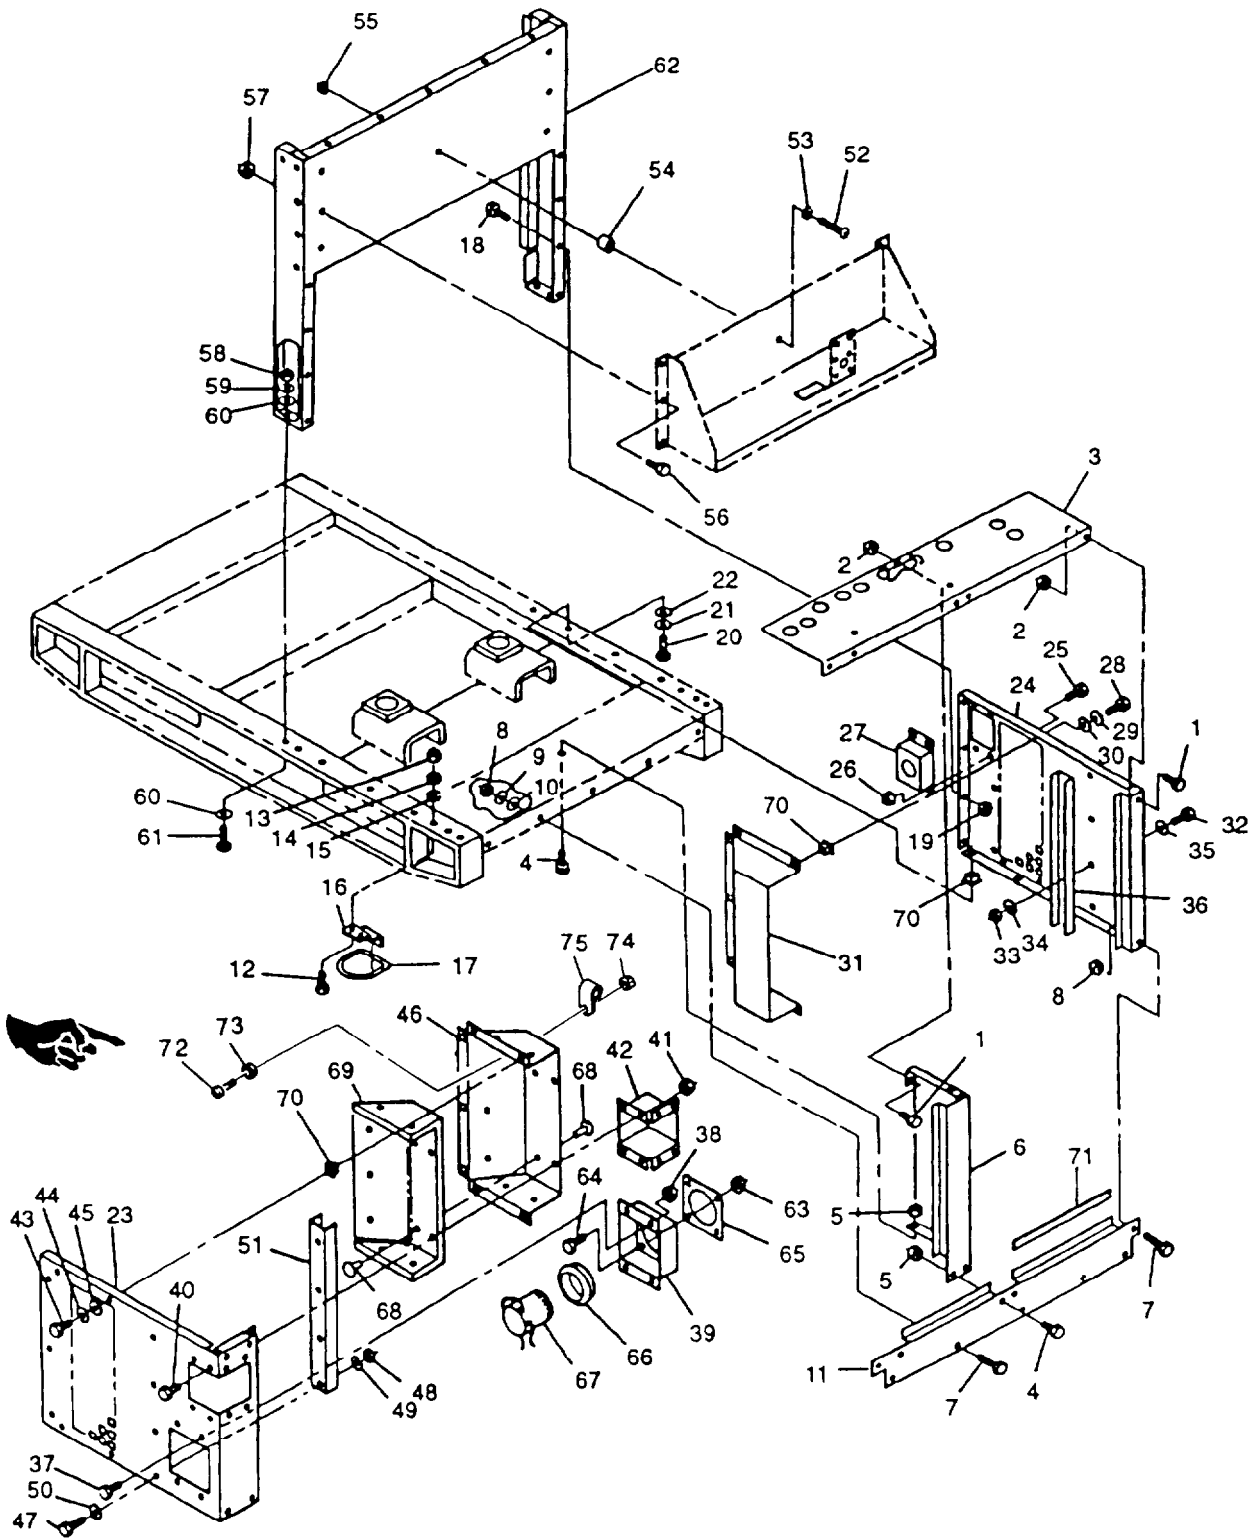

FIGURE 2-9. Generator Set Rear Housing Section
- n Remove bolts (1, FIGURE 2-9), nuts (2), and upper door sill (3).
- o. Remove bolts (4), nuts (5), and center door post (6).
- p. Remove bolts (7), nuts (8), lockwashers (9), washers (10), and lower door sill (11)
- q. Remove bolts (12), nuts (13) lockwashers (14) washers (15), rear lifting rings brackets (16), and lifting rings (17).
- r. Remove bolts (18) and nuts (19), four places each side.
- s. Remove bolts (20), lockwashers (21), washers (22), and rear side panels (23) and (24).
- t. Remove bolts (25), nuts (26), and slave receptacle box (27) from side panel (24).
- u. Remove bolts (28), lockwashers (29), washers (30), and deflector (31) from side panel (24).
- v. Remove bolts (32), nuts (33), lockwashers (34), washers (35), and stiffener (36) from side panel (24).
- w. Remove bolts (37), nuts (38), and load entrance box assembly (39) from side panel (23).
- x. Remove bolts (40), nuts (41), and frequency control cable box (42) from side panel (23).
- y. Remove nut (74), bolt (72). washer (73), power cable clamp (75) from deflector (46).
- z. Remove bolts (43), lockwashers (44), washers (45), and deflector (46) from side panel (23)
- aa. Remove bolts (47) nuts (48), lockwashers (49), washers (50), and stiffener (51) from side panel (23)
- ab. Remove bolts (52) and (56), nuts (55) and (57), washer (53), and spacer (54) securing output box assembly to center housing panel (62). Carefully lay output box assembly on generator.
- ac. Remove nuts (58) lockwashers (59) washers (60) bolts (61), and center housing panel (62) from generator set.
- ad. If necessary, remove nuts (63) and bolts (64) and disassemble gasket (65), ring (66), and sleeve (67) from load entrance box (39).
- ae. If necessary, remove clip halves (68) and sound insulation (69) from deflectors (46) and (31).
- c. Inspect for missing or damaged cage nuts (70, FIGURE 2-9).
- d. Inspect door seals (71) for looseness and damage.
- e. Inspect sound insulation (69) for damage and missing clip halves (68)
- a. Install center housing panel (62, FIGURE 2-9) on generator set with bolts (61), washers (60), lockwashers (59), and nuts (58).
- b. Secure output box assembly to center housing panel (62) with bolts (52) and (56), nuts (55) and (57), washer (53), and spacer (54).
- c. Install stiffener (51) on side panel (23) with bolts (47), washers (50), lockwashers (49), and nuts (48).
- d. If removed, install sound insulation (69) on deflectors (46) and (31) and clip halves (68).
- e. Install deflector (46) on side panel (23) with bolts (43), lockwashers (44), and washers (45).
- f. Install power cable clamp (75) onto deflector (46) with bolt (72), washer (73), and nut (74).
- g. Install frequency control cable box (42) on side panel (23) with bolts (40) and nuts (41).
- h. If removed, install sleeve (67), ring (66), gasket (65), nuts (63), and bolts (64) to load entrance box (39).
- i. Install load entrance box assembly (39) on side panel (23) with bolts (37) and nuts (38).